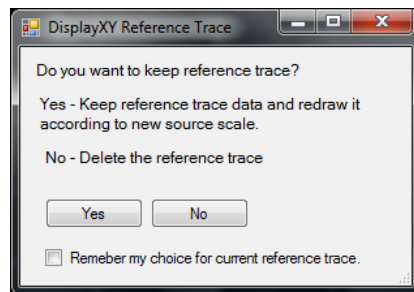

Figure 2-99 DisplayXY Reference Trace dialog
- 5 The DisplayXY Reference Trace dialog will be displayed as shown in Figure 2-99 when you change the Display XY mode sources with the reference trace enabled.